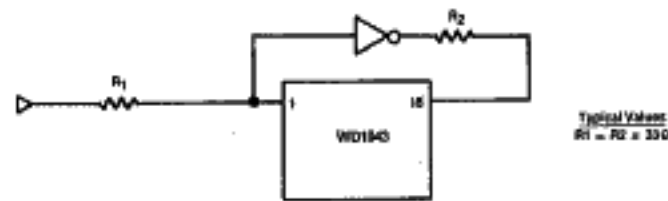

FIGURE 3. SERIES RESISTOR TO MATCH IMPEDANCE
1. Add a series resistor to match impedance as shown in Figure 3.